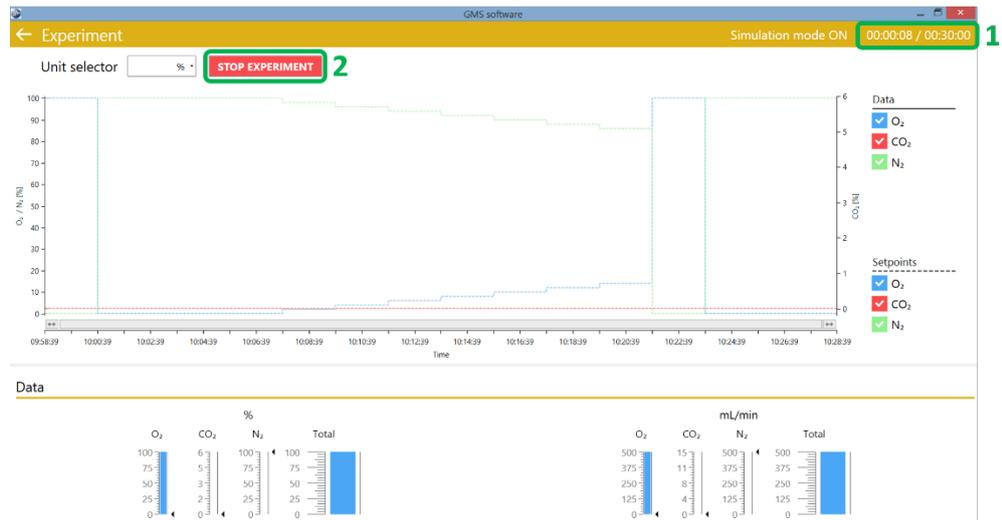

Figure 11: Automated experiment
5. The experiment will now run and terminate automatically according to the automated protocol. The timer (1, Figure 11) displays the remaining time for each step and the whole experiment. You may also abort the experiment before automatic completion (2).